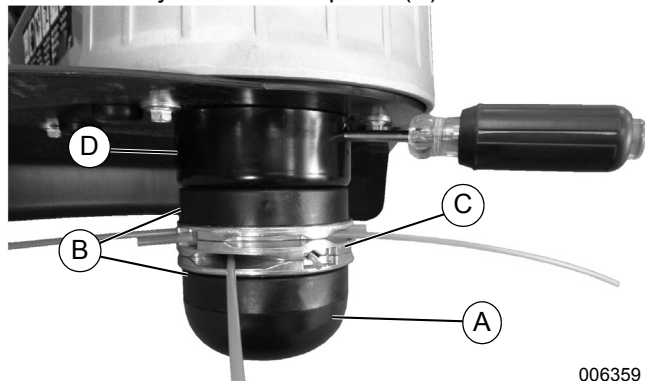

Figure 4-4. Middle Cutting Height Setting
1. See Figure 4-4. Remove Mow-Ball (A) quick lock (B) and adapter, and spacers (C) off the shaft. Do not remove anti-wrap canister (D). See Quick Lock Head Disassembly.
2. For a middle cutting height setting, install one spacer (B), the quick lock with adapter (C), followed by the second spacer (B) onto shaft.